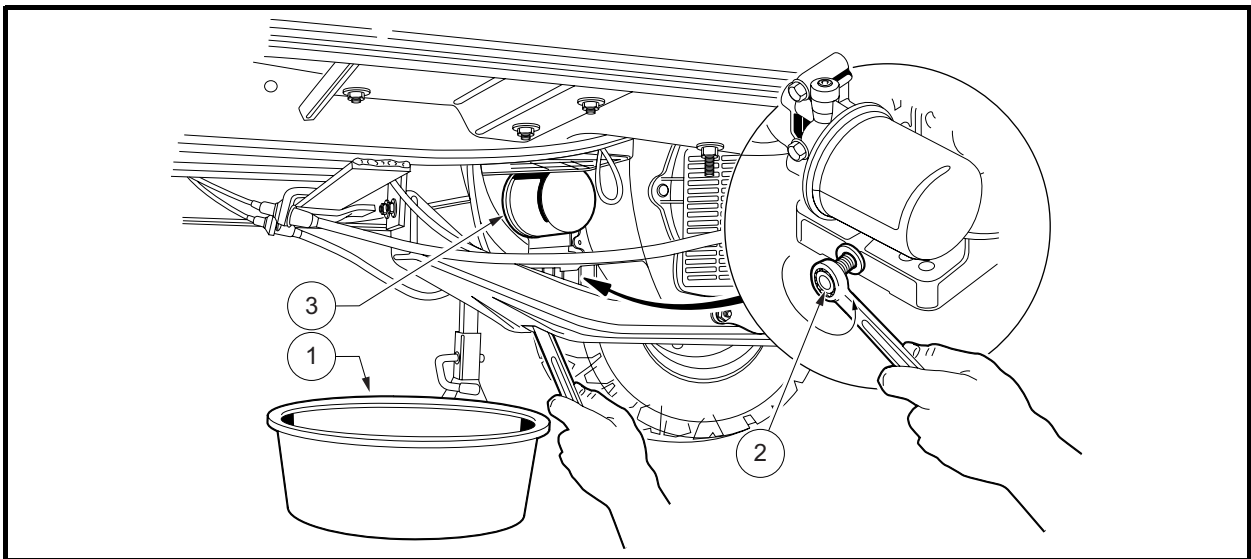

Figure 28 Engine Oil Drain Plug and Pan
4. Position a pan designed for oil changes under the front drain plug (**Figure 28**).
8. Relocate the oil drain pan to a position under the engine oil filter (**Figure 28, Page 45**).
NOTE: An oil drip guard can be used to prevent excess oil from dripping into the engine base plate. Use an empty quart (one liter) container and cut the bottom off at an angle, then slide the open area of the container up and under the oil filter prior to removing. Position the port of the plastic container so oil will be directed into the oil pan (**Figure 28**). Or, make a drip guard by folding a piece of cardboard, thin metal, or plastic under the oil filter forming a channel to direct the filter port oil into the drain pan.